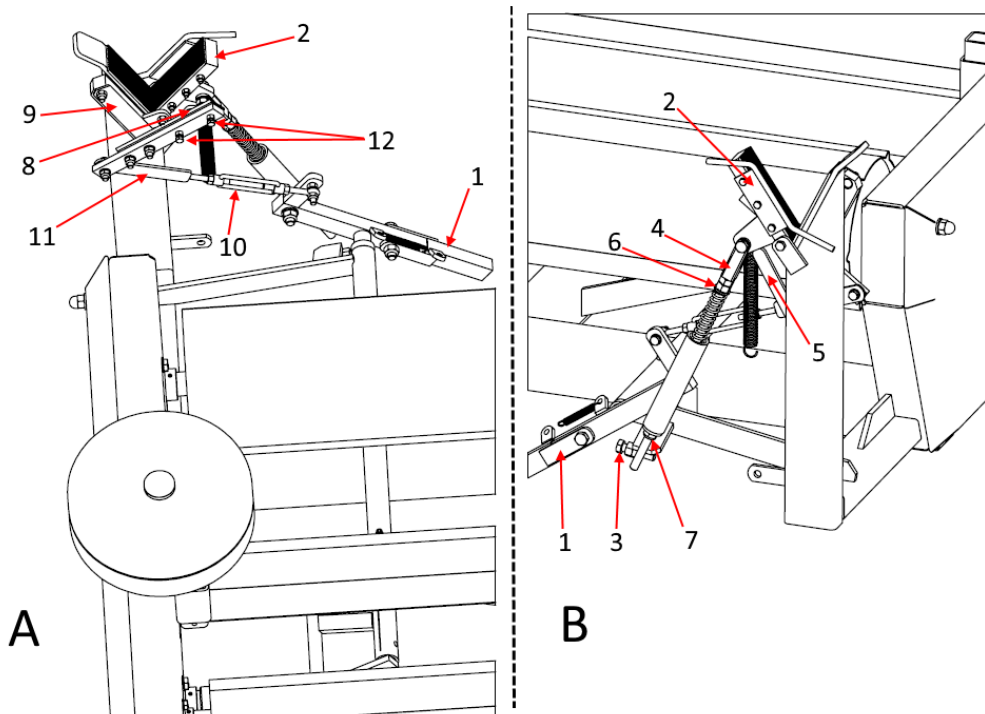

Figure 28. Open film cutter A back view, B front view
- The film-cutter arm (1) in its closed position must be set so that it retains the buffer position (2), and when the service table revolves, the lower part of the arm is able to hit the film cutter buffer (Fig. 28 – 8).
- Adjust the arm position by tightening or loosening the bolt of the end stop (3).
- The open position of the film cutter is defined by its buffer link length (4).